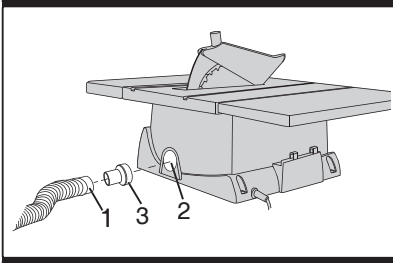

Fig 24
- To prevent sawdust build up inside the saw housing, attach a vacuum hose (1) to the dust port (2) at the rear of the table saw. DO NOT operate the saw with the hose in place unless the vacuum is turned on (See fig. 24).
**Note:** A 58-37 mm dust port adapter (3) is provided for your convenience.